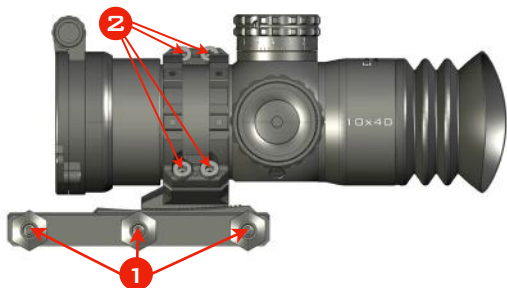

FIG. 2
- 2) Loosen the Base Nuts (Fig.2, Pos.1) and fit the mount to the rail, ensuring that the cross bolts fit correctly in the rail slots. Should the rifle to check whether eye relief is correct, and adjust mount position accordingly. Torque the nuts down to **50 in.lbs (5.7Nm)** using a 13mm or 1/2" Socket.
- 3) If the scope needs to be levelled, loosen the ring screws and adjust the scope position until cant error is removed. Once you are happy with the position of your riflescope, begin to torque down your rings in a criss-cross pattern, moving between screws (Fig.2, Pos.2) and turning small amounts at a time. Use a torque of **1.2-1.5 Nm (10.6-13.3 in-lbs)** for the ring screws.